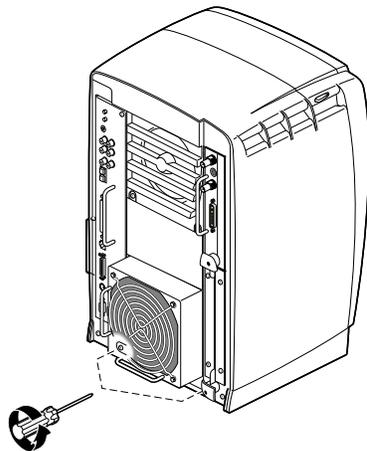

Figure 3-3 Loosening the Power Supply Screws
2. Using a Phillips screwdriver, loosen the captive screws, as shown in Figure 3-3, until they release from the chassis.